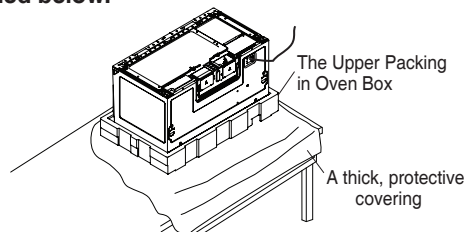

Figure 11
3. To avoid impossible hert of Slide Out Hood, Use the Upper Packing to support the Oven and make sure the rear side Up. See Figure 11.